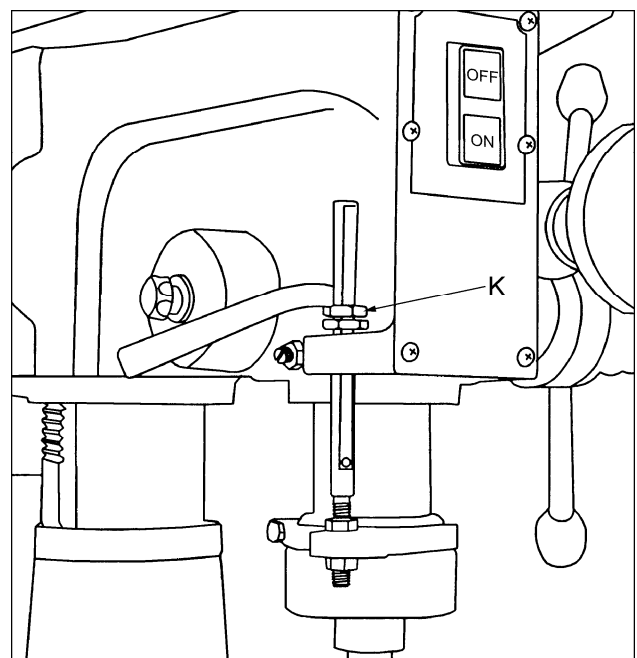

Fig. 8
*JMD-15*: (K, Fig. 8) located on the left side. Set nuts for desired depth stop.